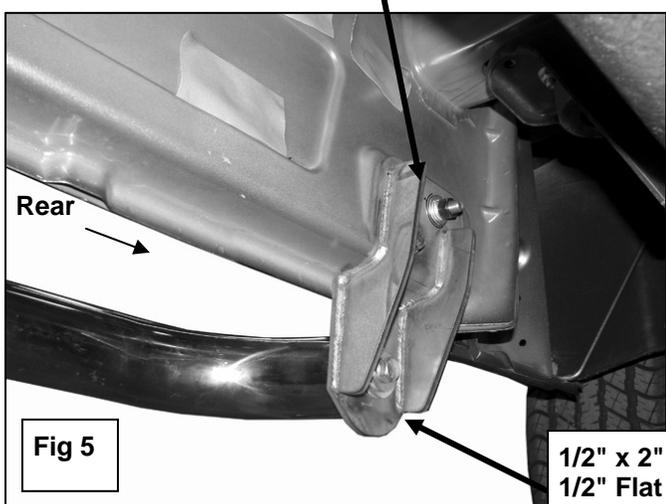

Fig 5
9. Select the passenger side rear Mounting Bracket. Position the Mounting Bracket onto the installed Bolt and Nut Plate. Secure it with (1) 12mm Flat Washer, (1) 12mm Lock Washer and (1) 12mm Hex Nut, **(Figure 5)**. Do not tighten at this time. Rotate the Bolt and Nut plate until the Nut end lines up with the remaining hole in the Mounting Bracket and body. Thread (1) 10mm x 35mm Hex Bolt, (1) 10mm Flat Washer and (1) 10mm Lock Washer into the threaded nut. Snug but do not tighten hardware at this time.